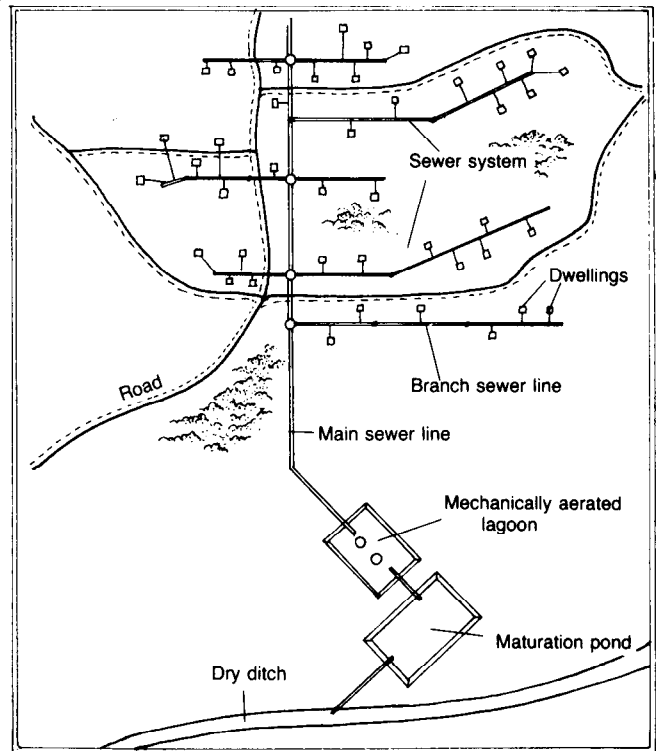

Figure 1. Location Map
- 1) Location map, or master sewer map, similar to Figure 1.